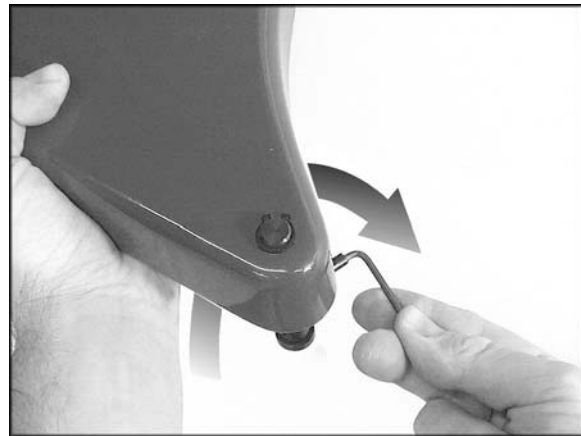

Figure 8-2
2. Twist the hex wrench and pin clockwise, as shown in Figure 8-2, and hold them there.